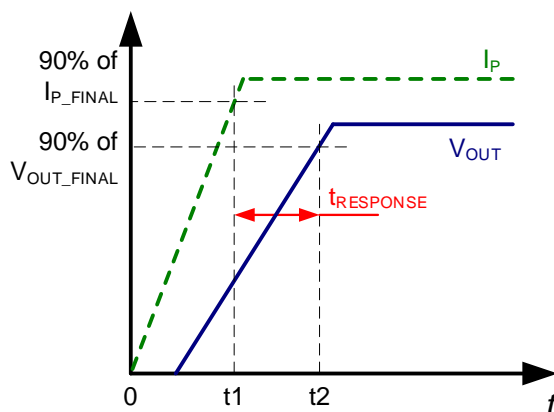

Figure 7: Response Time ( $t_{\text{RESPONSE}}$ )
2.  $t_2$ :  $V_{\text{OUT}}$  reaches 90% of its final value, as it corresponds to the applied  $I_P$  (see Figure 7).